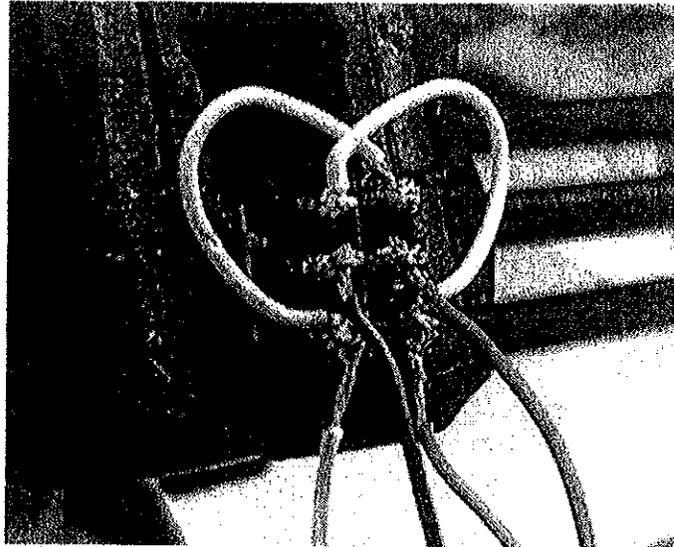

Figure 44:
8. Attach one red (+) power wire to the middle terminal of your first switch, on the same side as the solid-colored wire. Attach a black (-) power wire to the middle terminal on the other side, as shown in Figure 44. Repeat for the other switch.